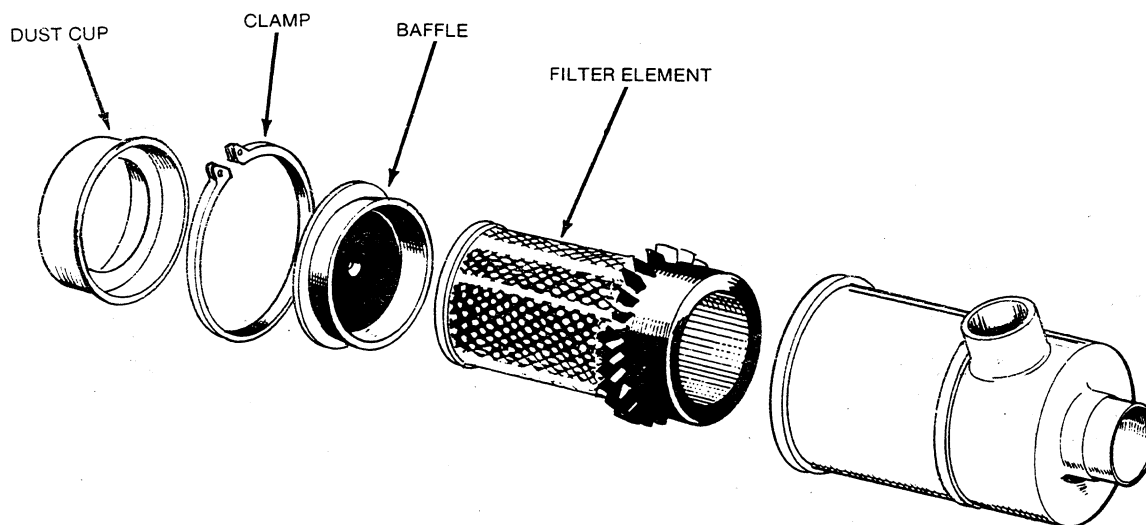

FIGURE 15. AIR CLEANER
1. Loosen the clamp (see Figure 15) and remove the dust cup assembly.